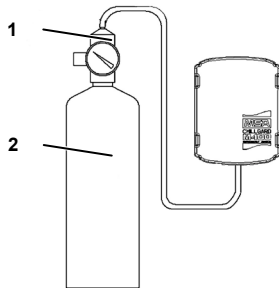

Fig. 6 Applying Calibration Gas
- (1) Deactivate any equipment connected to the outputs, or disconnect the wiring of the outputs.
- (2) With the tubing connected to the regulator and cylinder, place tubing in the opening at the bottom of the sensor (→ Fig. 6).
- (3) Open the regulator and apply gas for a minimum of five minutes.
- (4) If the unit is operating properly, the red LED:
- (5) Turn OFF regulator and remove tubing from opening.
- (6) Allow gas level to return to normal.
- (7) Reactivate any equipment connected to the outputs or reconnect the wiring to the outputs.